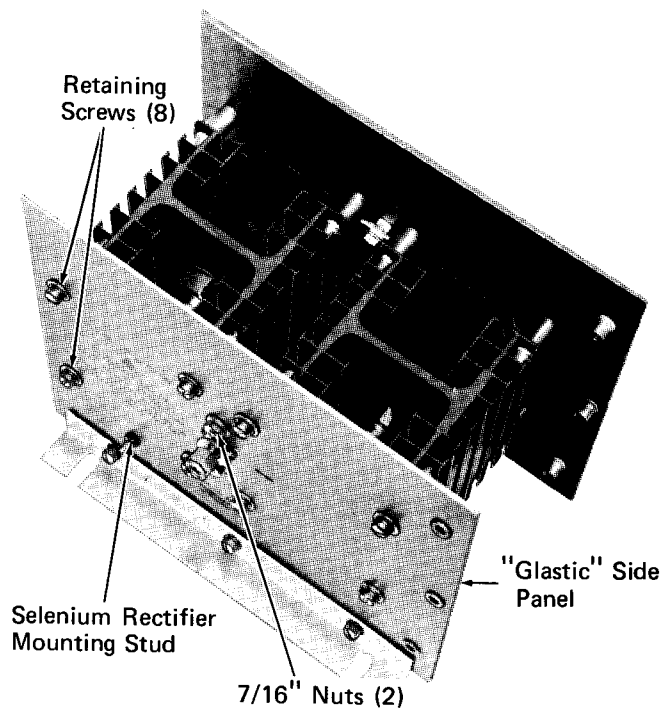

Fig. 4 - Battery Charging Rectifier Assembly 8319071
REMOVAL AND REPLACEMENT OF DIODES FOR RECTIFIER ASSEMBLIES 8319071 AND 8319696, Fig. 4
1. Remove "Glastic" side panel from negative side of rectifier as follows: Refer to Fig. 4.